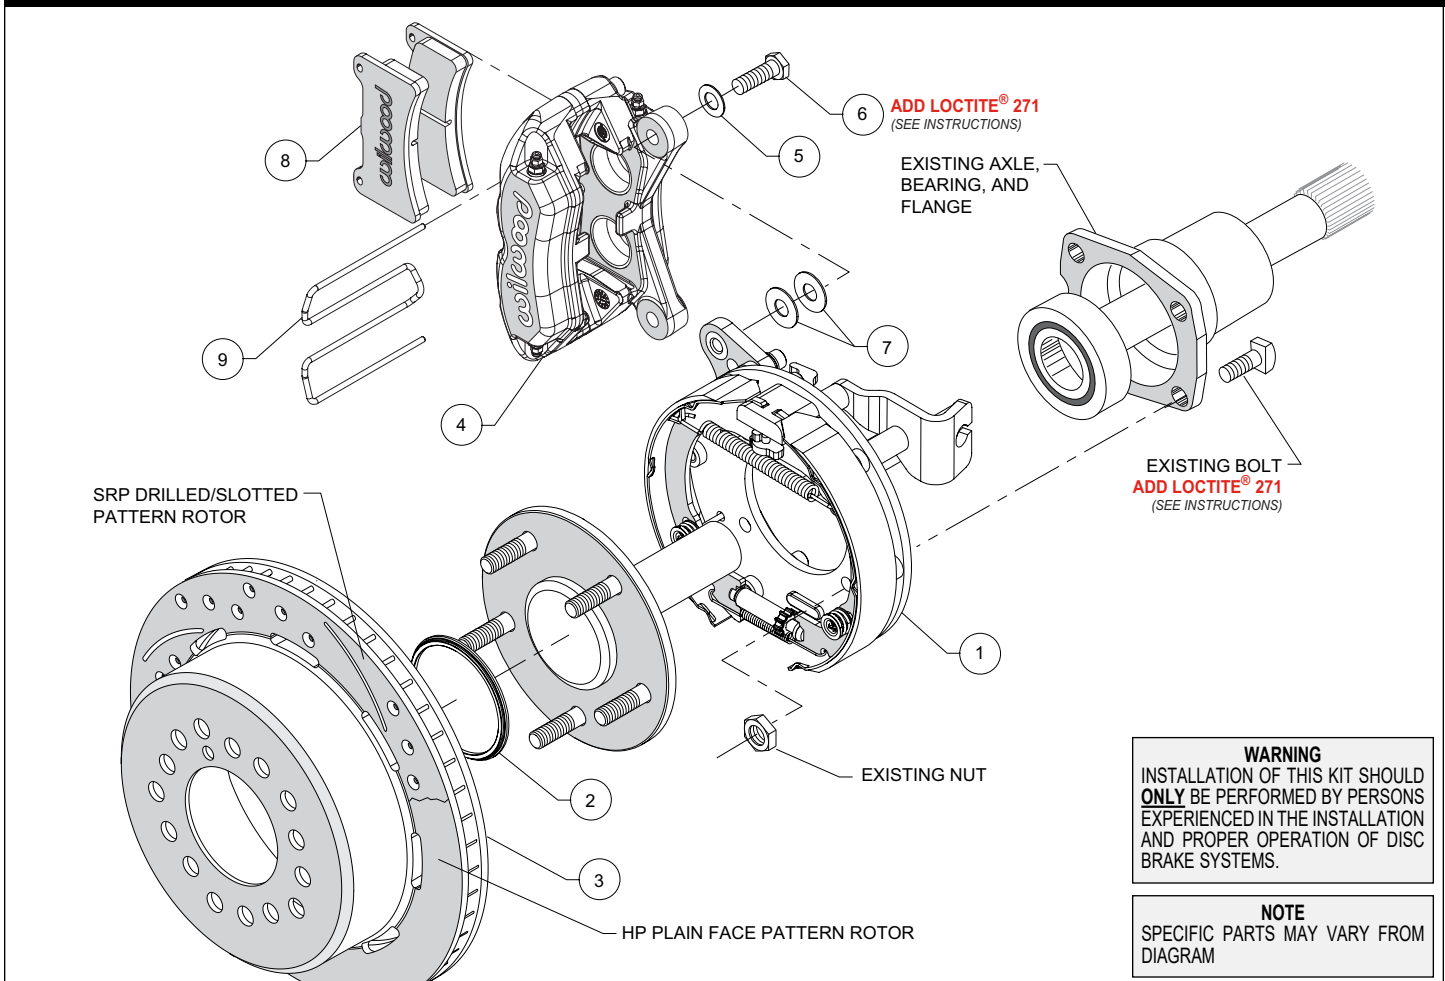

Figure 1. Typical Installation Configuration
NOTE: Numbers in parenthesis refer to the parts list and Figure 1 on the preceding pages.
- Orient the bracket assembly (1), as shown in Figure 1, and mount to the axle housing flange using the Original Equipment Manufacturer (OEM) bolts and nuts, Figure 1. Ensure that the bracket assembly backing plate fits flush against the axle housing flange. Apply red *Loctite*® 271 to the OEM bolt threads and torque to OEM specifications.
- Slide the rotor registration adapter (2) onto the axle register on the axle flange with the smaller O.D. facing toward the rotor/hat (3), Photo 1. Align the correct hole pattern in the rotor/hat with the stud pattern on the axle flange and slide into place, Figure 1 and Photo 2. **NOTE:** The rotor/hat must fit flush against the axle flange or excessive rotor run out may result. Install three lug nuts (finger tight) to keep the rotor/hat assembly in place while continuing with the installation. **NOTE:** Some OEM and after market axles come with stud sizes larger than 0.50" diameter. Verify stud size and have a qualified machine shop drill the bolt circle of the hat/rotor to the correct stud size, if necessary.
- NOTE:** Please reference the caution statement at the beginning of the assembly instructions. Mount the caliper (4) onto the caliper mounting bracket (1) using bolts (6) and washers (5), as shown in Figure 1. Initially place two .035" thick shims (7) on each bolt between the caliper and the bracket, Photo 3. Temporarily tighten the mounting bolts and view the rotor (3) through the top opening of the caliper. The rotor should be centered in the caliper, Photo 4. If not, adjust by adding or subtracting shims between the bracket and the caliper.